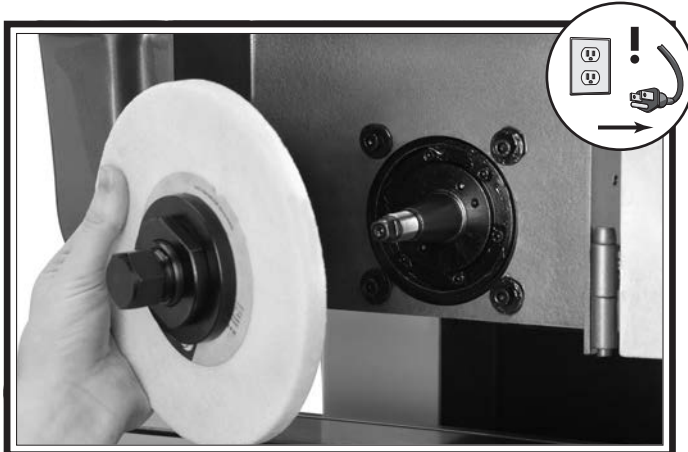

Figure 34. Wheel and hub removal.
8. Set the wrenches aside and carefully remove the wheel and hub assembly with the hub puller still installed (see **Figure 34**).